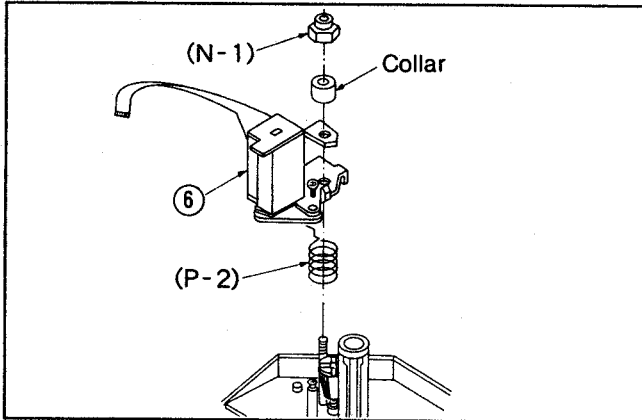

Fig. M14
- 41) Reinstall the A/C head. See Fig. M14. Position the spring as shown in Fig. M7.